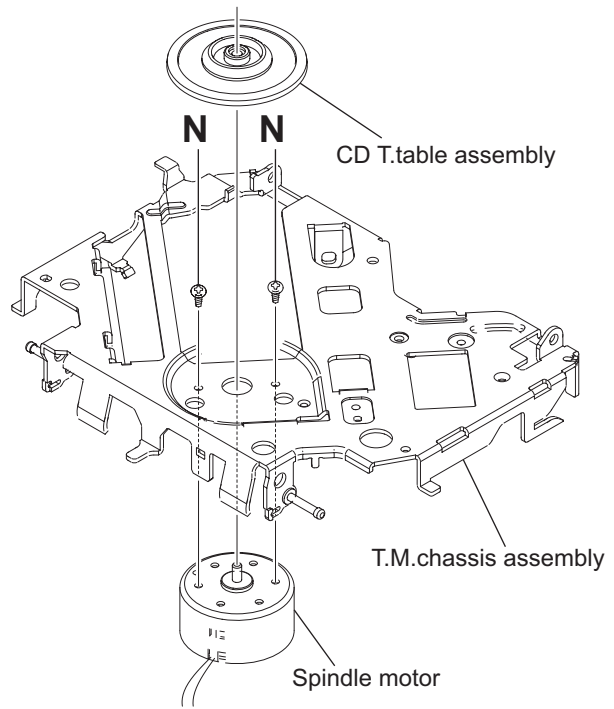

Fig.23
3.2.14 Removing the spindle motor (See Fig.23 and 24)
- (1) From the top side of the T.M chassis assembly, remove the CD T.table assembly from the spindle motor. (See Fig.23.)
- (2) Remove the two screws **N** attaching the spindle motor. (See Fig.23.)
- (3) Take out the spindle motor from the bottom side of the T.M chassis assembly. (See Fig.23.)